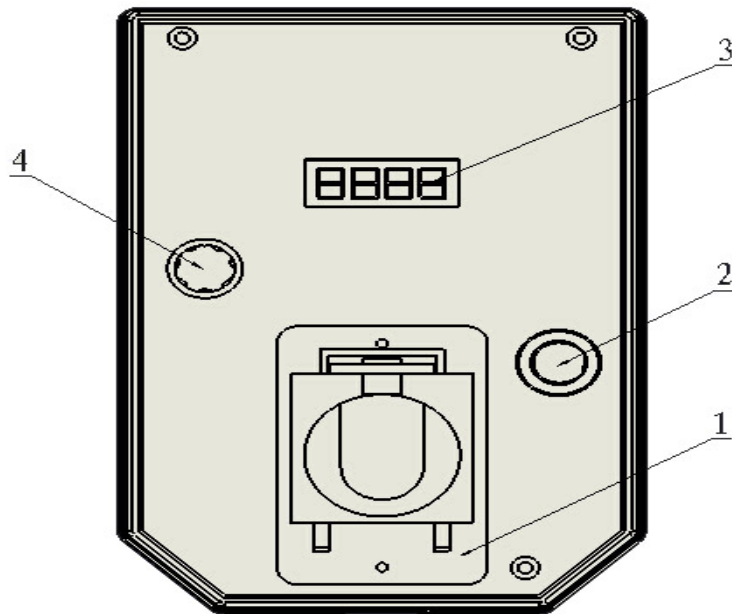

Figure 16
Operation Panel(Figure 16)
Step 1: turn the emergency stop switch (Figure 16 1). The red circle cover is pushed down along with the direction of the arrow.
In case of emergency, usable hands, legs, shoulders and other any part of the body touch red circle cover switch to turn off the machine, No need to use finger to press the red button "O" to stop machine (Fig. 16 1).
Step 2 push speed control button (high) (Figure 16 5), the spindle speed increases; push speed control buttons (low) (Figure 16 4) the spindle speed is reduced.
Speed Digital Display (Figure 16 2):